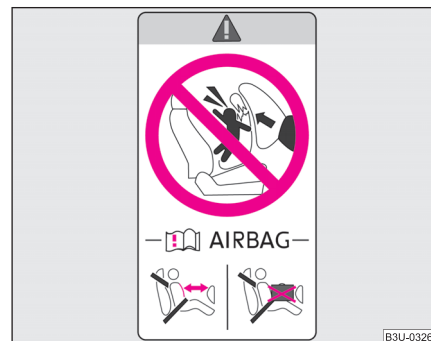

Fig. 123 Sticker on the centre column of the body on the front passenger side. ►
- This is also clearly stated on the sticker which is located on the centre column of the body on the front passenger side ⇒ page 156, fig. 123. The sticker is visible upon opening the front passenger door.